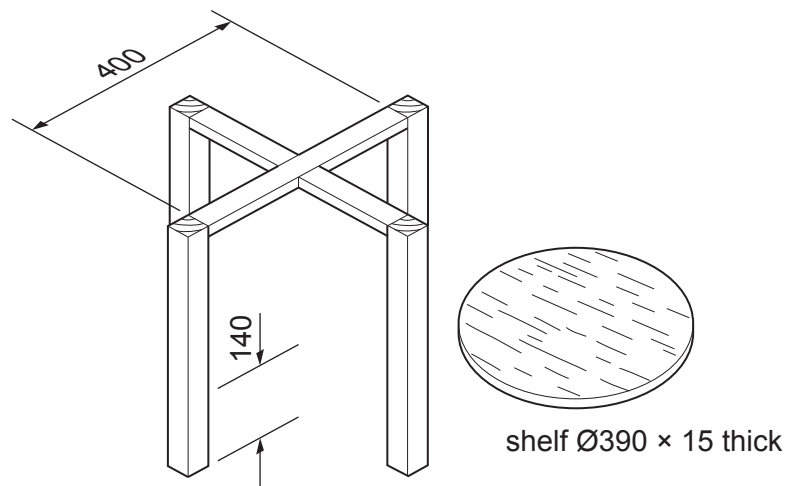

Fig. 11.5
- (f) Fig. 11.5 shows details of a shelf that is to be fitted to the legs of the table at the height shown.